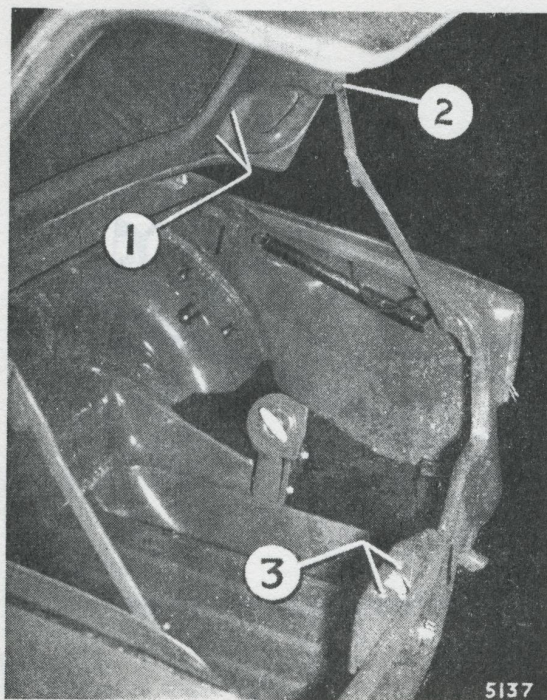

Fig. 30. Boot lid and lock attachment points (Rapier)
BOOT LID—To remove Rapier (Fig. 30)
Remove two screws with their washers (3), (Fig. 30). The lock can now be removed by pulling out from the inside of the boot.